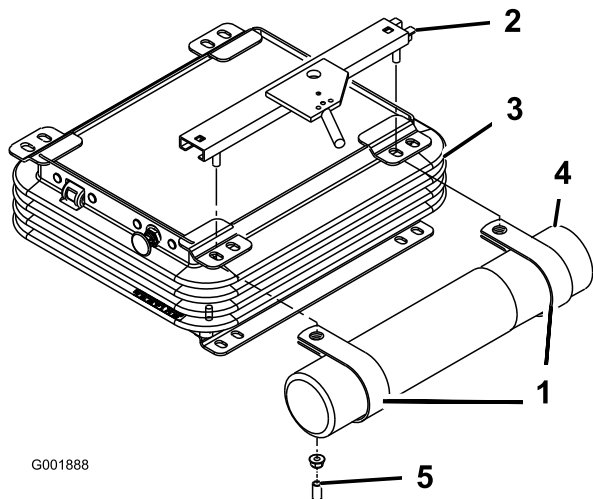

Figure 7
2. Remove the 2 nuts and vinyl caps (if previously installed) securing the upper seat bracket to the left side of the seat suspension (Figure 7).
3. Loosely mount the R-clamps to the seat bracket studs with the 2 nuts previously removed. (Figure 7). The R-clamps are to be positioned under the seat suspension tabs.